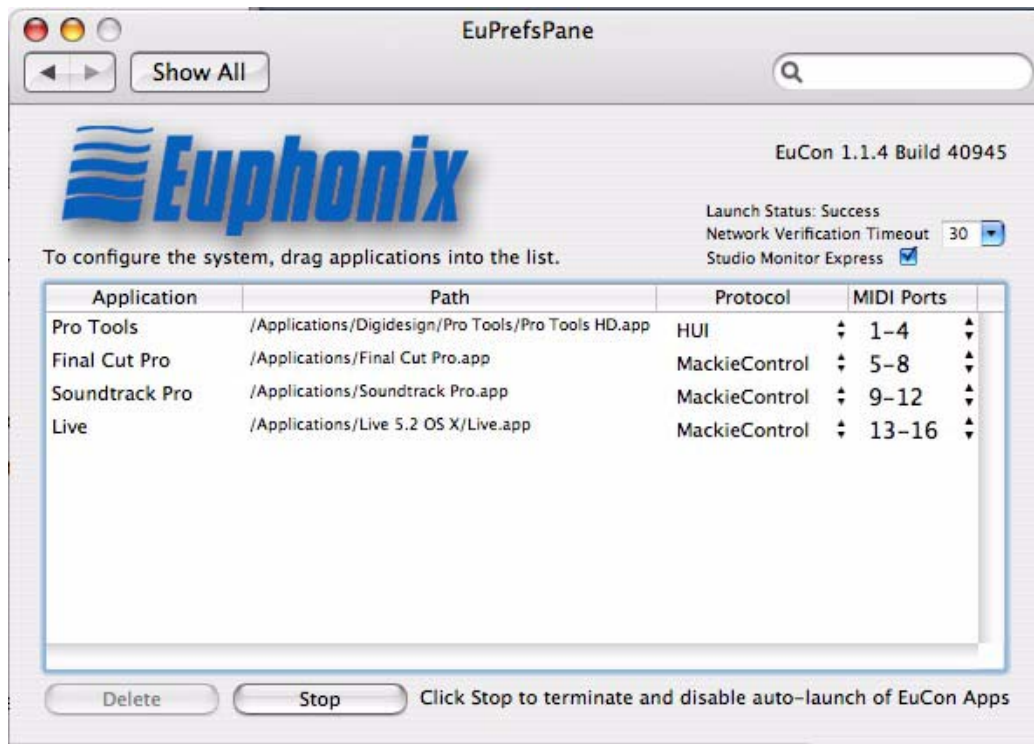

Figure 2-4 Euphonix Preferences pane
Mac OS X users must first install the EuCon Workstation installer. Since HUI and Mackie Control Universal use MIDI to communicate, they require allocation of MIDI ports by OSX. The OSX EuCon software creates a virtual MIDI driver with 32 ports, but actual communication with the Hybrid occurs via the faster and more reliable Ethernet network. HUI and Mackie Control use four MIDI ports per application. Ports are allocated in the Euphonix Preferences Pane (**Apple Menu->System Preferences/Eu-PrefsPane**). Figure 2-4 shows a possible application. This configuration is only necessary with HUI and Mackie Control applications. EuCon-aware applications communicate automatically with the Hybrid.
5. Configure each controller to have the input and output MIDI ports set for Pro Tools in the Euphonix Preferences Pane (see Figure 2-4). Click on the **Receive From** and **Send To** drop-down menus, hover over **Predefined**, then select from the Euphonix MIDI ports.
- added the application(s) to control to the Euphonix Preferences pane (Figure 2-4);